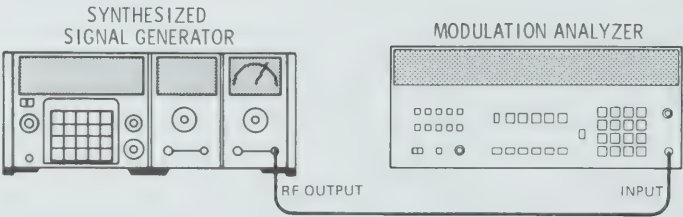

Figure 4-14. Incidental AM Test Setup
- 1. Connect the equipment as shown in Figure 4-14.